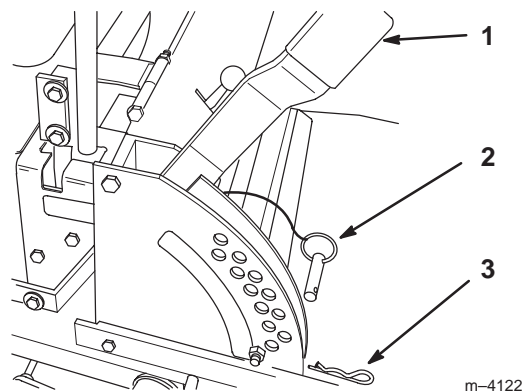

Figure 20
1. Raise the height-of-cut lever to the transport position (also the 4-1/2 in. (114 mm) cutting height position) (Fig. 20).
2. To adjust, remove hairpin cotter and clevis pin from height-of-cut bracket (Fig. 20).
3. Select hole in height-of-cut bracket corresponding to the height-of-cut desired, and insert clevis pin (Fig. 20).
4. Secure clevis pin with hairpin cotter (Fig. 20).